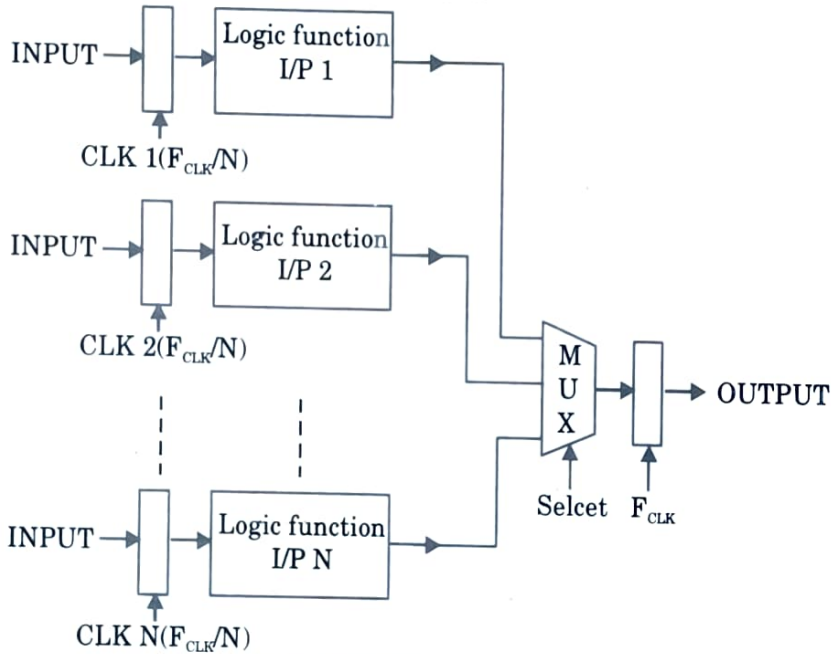

Fig. 4.17.1.
- Another method for trading off area for low power dissipation is to use parallelism or hardware replication. Consider N identical processing element with function F (INPUT) each in parallel as shown in Fig. 4.17.1.